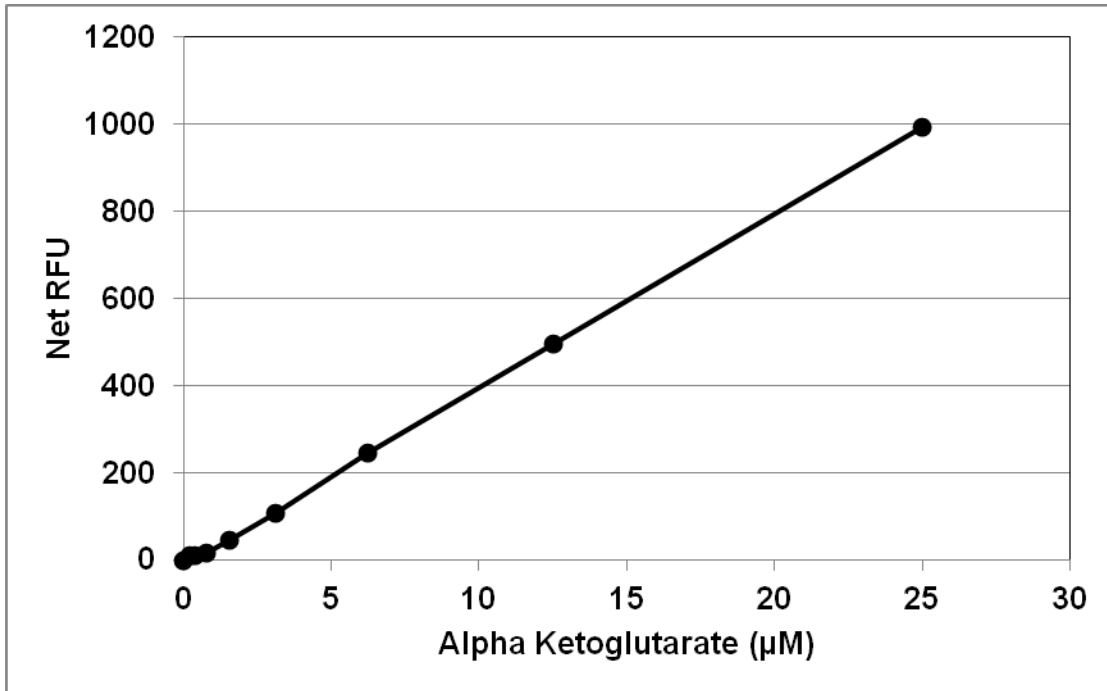

Figure 2: Example α -Ketoglutarate Standard Curve.
2. Plot the corrected fluorescence for the standards against the final concentration of the α -Ketoglutarate standards from Table 2 to determine the best curve. Use the 60-120 minute reading values, or final time point fluorescence values, to plot the α -Ketoglutarate standard curve. See Figure 2 for an example standard curve.